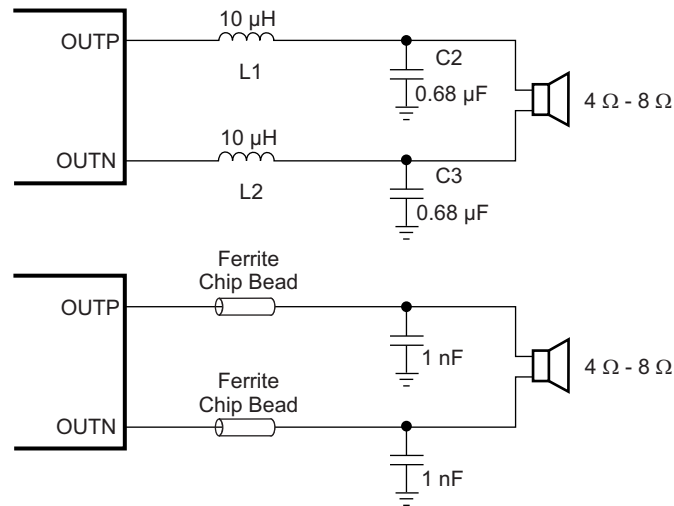

Figure 35.
- Output filter — The ferrite EMI filter (see Figure 35) should be placed as close to the output terminals as possible for the best EMI performance. The LC filter should be placed close to the outputs. The capacitors used in both the ferrite and LC filters should be grounded.